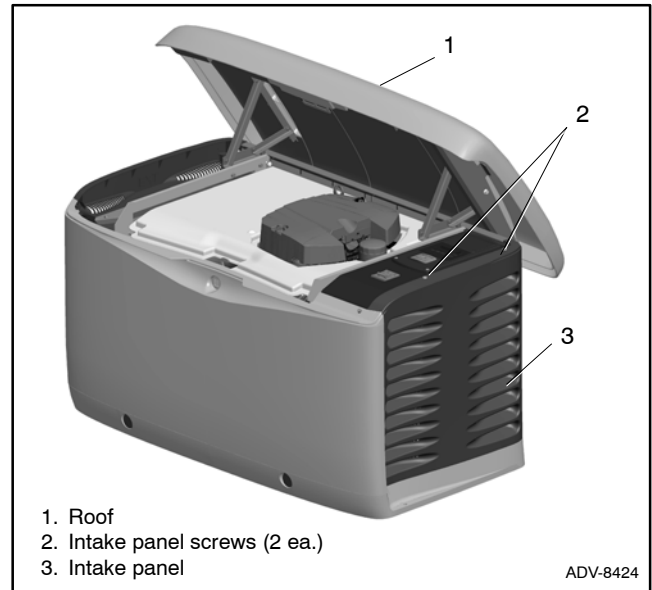
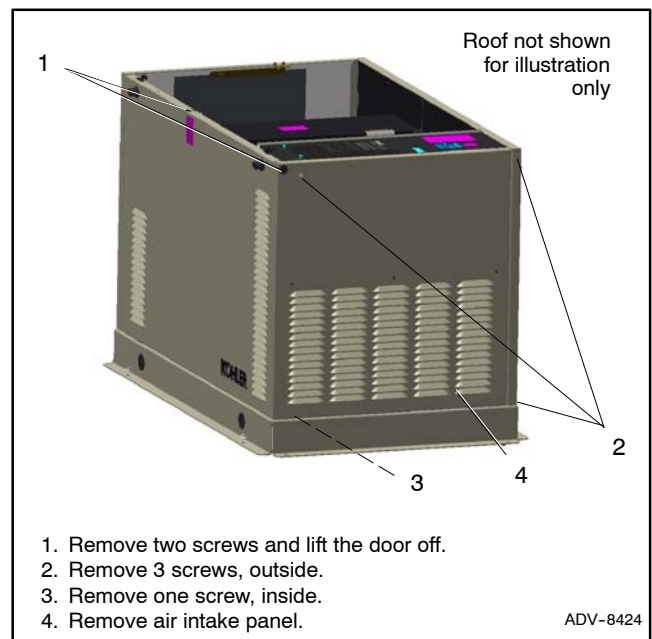

Figure 3 Removing Air Intake Panel, Composite Enclosures
Figure 4 Removing Air Intake Panel, Metal Enclosures
4. Remove the air intake panel to access the fuel regulator. See Figure 3 or Figure 4.